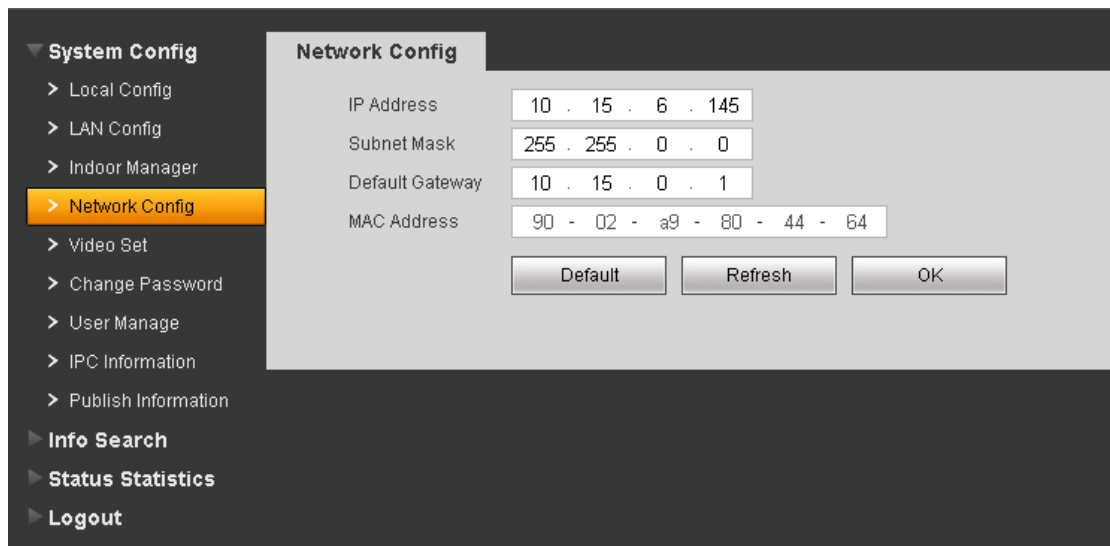

Figure 3- 9
- b) Set VTO IP address, subnet mask and default gateway. After you are done, WEB page will reboot and go to the new set page. See Figure 3- 9.